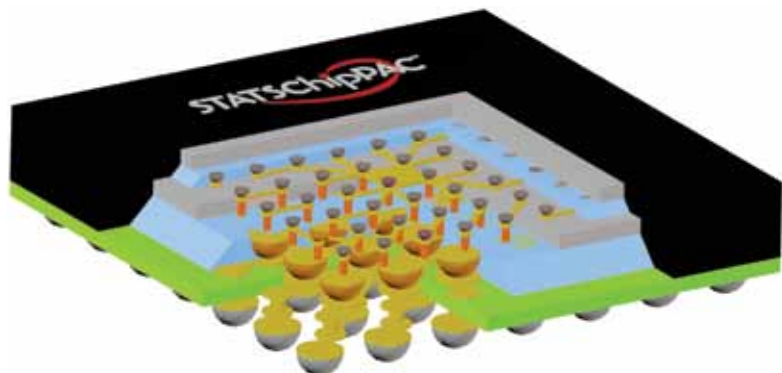

Figure 2. STATS ChipPAC's fcbGA with TSV structure.
2.5-D replaces the RDL with a silicon (or glass) wide I/O interposer as the routing layer, so that the through-vias run through the interposer or substrate rather than through the active die. This interposer can be used to fan out or reroute the electrical traces of a device while routing the traces to another vehicle in a vertical dimension, such as the package substrate. These layers utilize microbumps on the interface to electrically connect to the next layer in the stack. Silicon interposers accommodate the CTE mismatch between the layers in a stack, thus improving reliability. 2.5-D simplifies the structure in a way that allows the OSAT (outsourced assembly and test) community to participate, providing a handoff point for OSAT companies to get involved in the final packaging operation. 2.5-D integration provides a smooth process transition from 40 nm to 28 nm. Figures 2